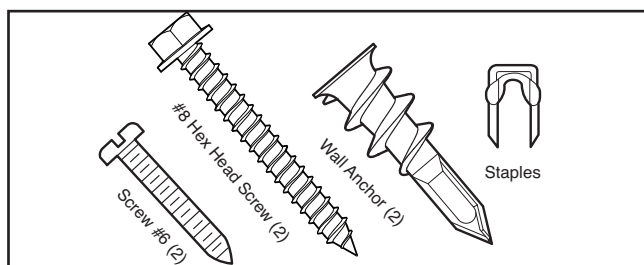

Figure 1
1. Position the cable tension monitor as shown (Figures 1 and 2). The cable tension monitor should be located as close to the drum as possible.